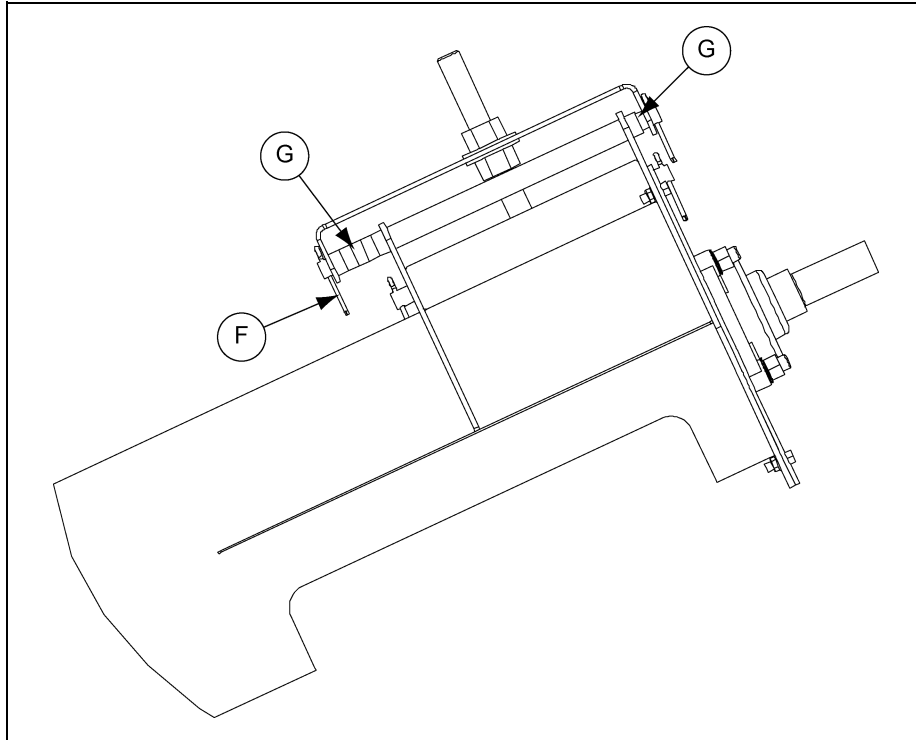

Figure 4F
3. Slide the motor mount pivot rod (E) through the pivot tube on the discharge tube.
4. When the pivot rod begins to extend through the pivot tube, install the spacers (G) BETWEEN the back plate and the inner face of the motor mount plate. *(See Figure 4F.)*